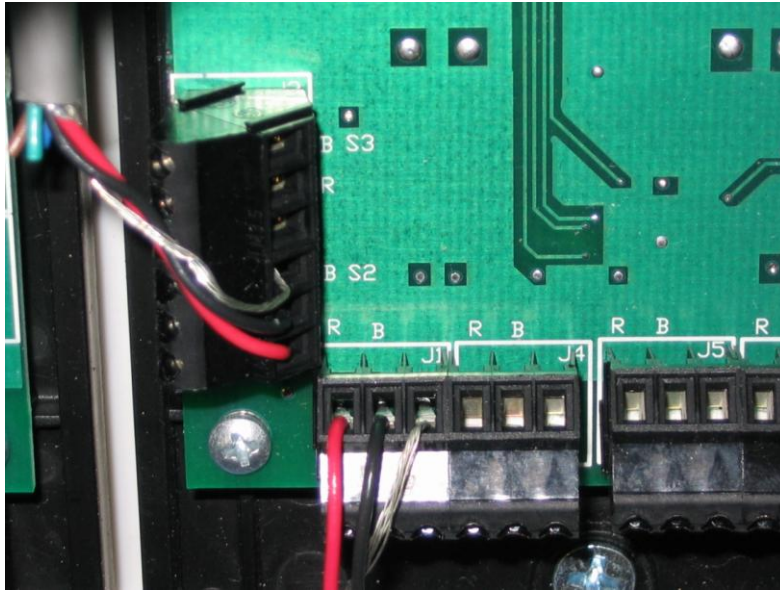

Figure 27
Connect the ribbon cable from the adjacent module to the J15 connector and if there is another module connect it to the J16 connector with another ribbon cable. Connect up to 8 transducers to the terminal blocks at the bottom of the board. Connect the transducers red wire to the (R) position of the terminal block and the black wire to the (B) position. Optionally the shielding of the transducer may be connected to the remaining position on the terminal block. The transducer connected to the S1 terminal block will correspond to the top LED indicator. (See Figure 27.)